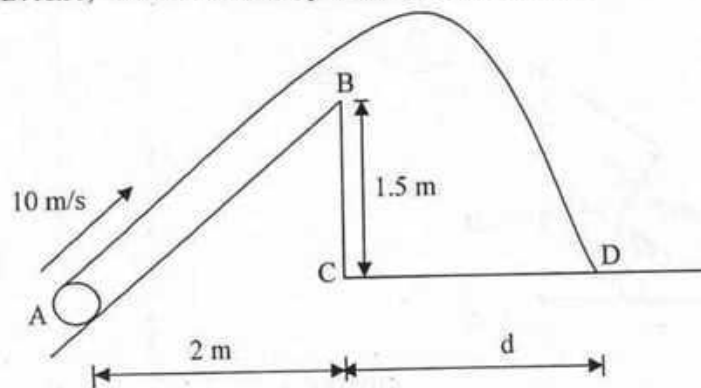

FIGURE 6
7. A 2 kg ball of negligible size is fired from point A with an initial velocity of 10 m/s up the smooth inclined plane, as shown FIGURE 6. Determine the distance from point C to where it hits the horizontal surface D. Also, what is its velocity when it hits the surface. (10)